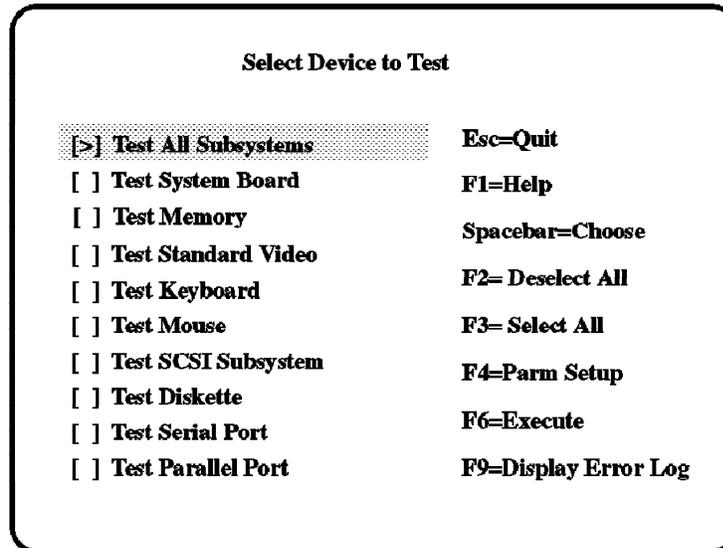

Figure 82. System Management Services - Device Test Menu
- When the *Select Device to Test* menu appears (see Figure 82), press **F9**.